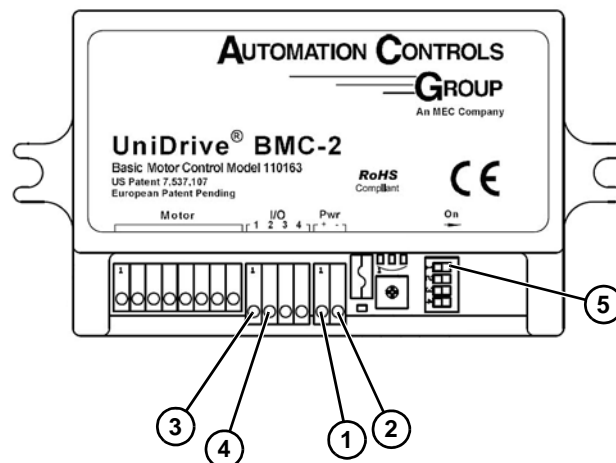

Figure 93
Wire +24 DC (**Figure 93, item 1**) and DC ground (**Figure 93, item 2**) to the driver's power plug.
Supply an PNP input to Smart input 1 (**Figure 93, item 3**) to run motor.
- Dynamically, wire a 2nd PNP input to Smart input 2 (**Figure 93, item 4**). Only one Smart input can be active at a time.
- One time, switch state of dip switch 1 (**Figure 93, item 5**) on the driver board. Dip Switches are only read at start up. After a change is made, cycle power to the unit.